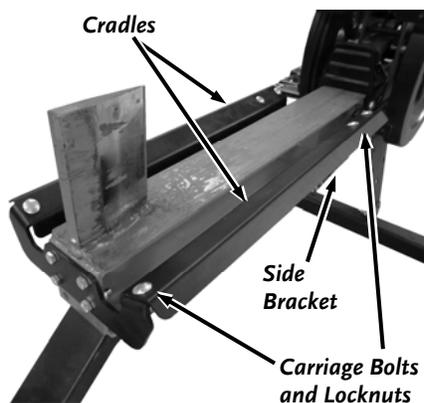

Figure 6
8. For easier alignment in the following step, slightly loosen the Side Bracket Hardware using a 9/16" Wrench (**Figure 6**).